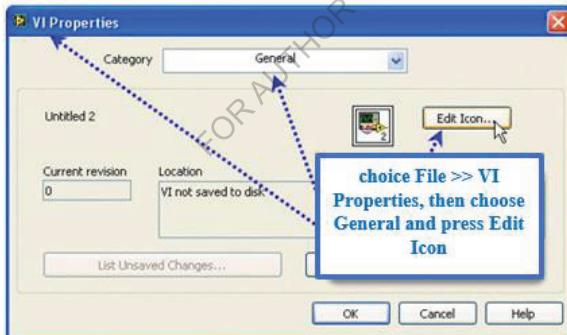

Figure 2.94: The Icon Modifies
- or by choice **File >> VI Properties**, then choose General and press Edit Icon, as shown in figure 2.94.